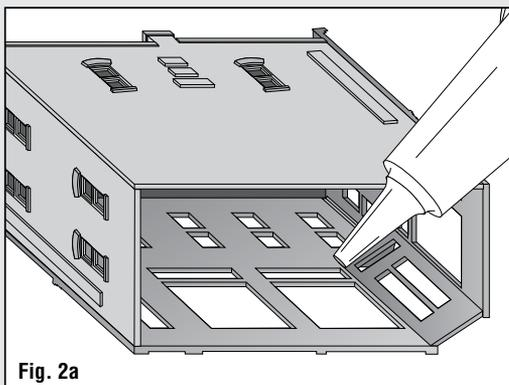

Fig. 2a
- Remove Front Door ② from sprue. Sand edge smooth where tabs were removed.
- From inside the building, place Door in opening (Fig. 2a).